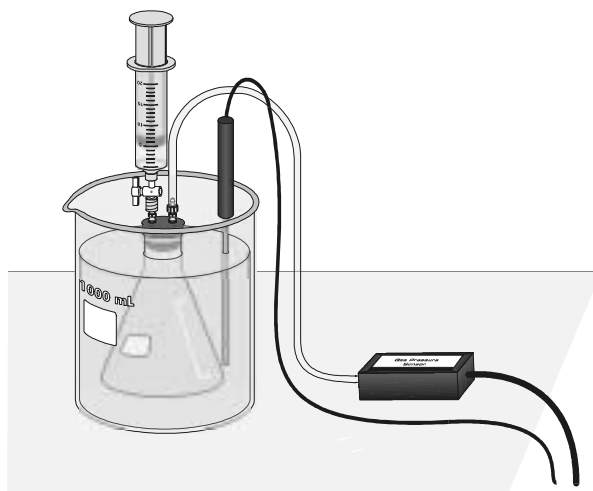

Figure 3
6. Finish setting up the apparatus shown in Figure 3:
- c. Hold the flask in the water bath, with the entire flask covered as shown in Figure 3.
7. Obtain the methanol container and the syringe. Draw 3 mL of the methanol up into the syringe. With the two-way valve still closed, screw the syringe onto the two-way valve, as shown in Figure 3.